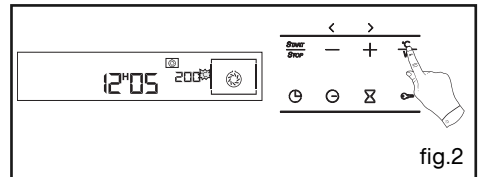

fig.2
- Press the “cooking time”  button. The cooking time flashes 0:00 to indicate that it is now possible to set it (fig.2).